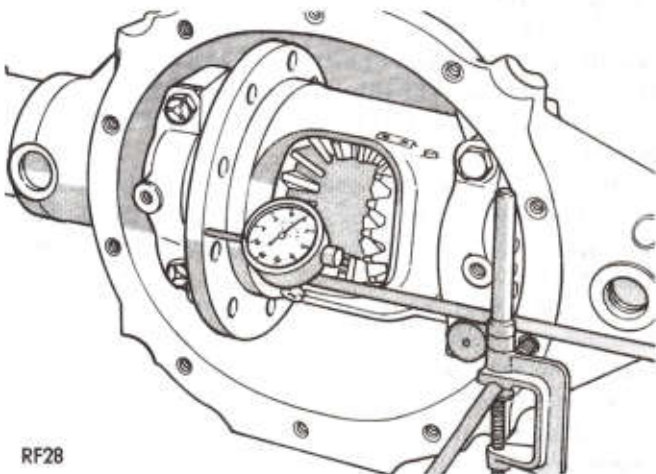

Fig. 17—Checking Drive Gear Mounting Flange Face Runout
(24) Attach a dial indicator Tool C-3339 to housing so pointer of indicator squarely contacts drive gear surface of differential case flange between outer edge of flange and drive gear bolt holes.
(25) Rotate differential case several complete revolutions while noting total indicator reading. This reading must not exceed .003 inch (.08 mm) runout. If runout is in excess of .003 inch (.08 mm), differential case must be replaced. **In a case where the runout does not exceed .003 inch (.08 mm) it is often possible to reduce the runout by positioning the drive gear 180 degrees from point of maximum runout when reassembling drive gear on differential case (Fig. 17).**
(26) Loosen and remove pedestal cap bolts and remove differential case assembly from carrier and tube assembly.